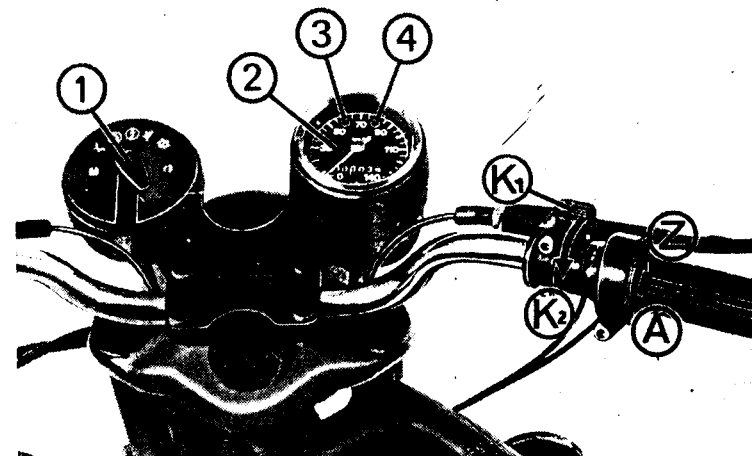

Fig. 2. Instruments (standard design) and cold-starting device
4. **With the engine in a cold state:** Open the cold-starting device (Fig. 2).